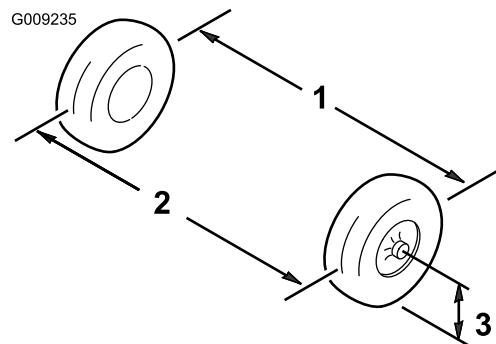

Figure 54
1. Measure the distance between both of the front tires at the axle height at both the front and rear of the front tires (Figure 54).